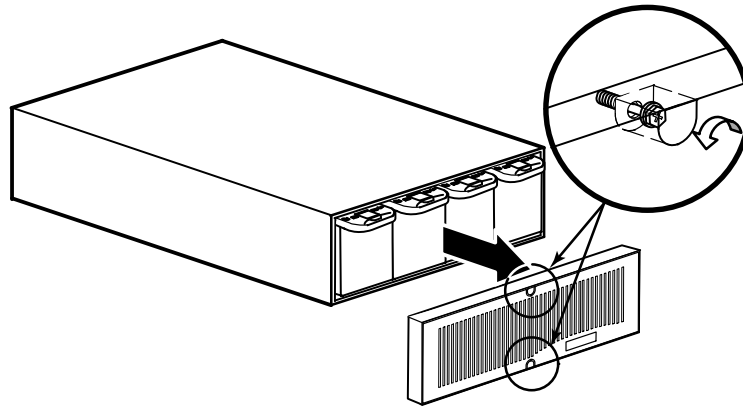

Figure 14. Removing the EBM Front Cover
3. Remove the EBM front cover (see Figure 14).